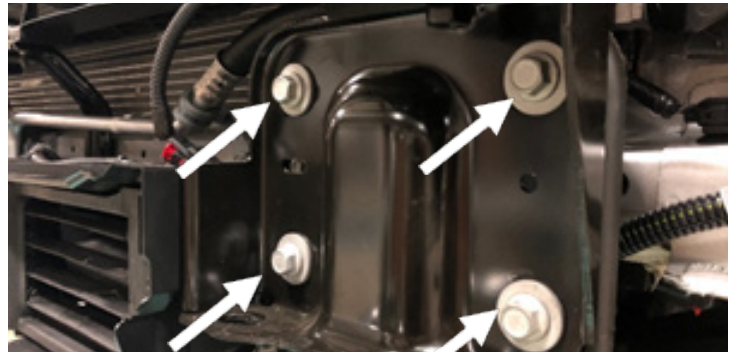

Figure 14
13. Use a 15mm socket wrench to take four (4) bolts holding the mounting plates and lower louvers to the frame horns. Figure 14.